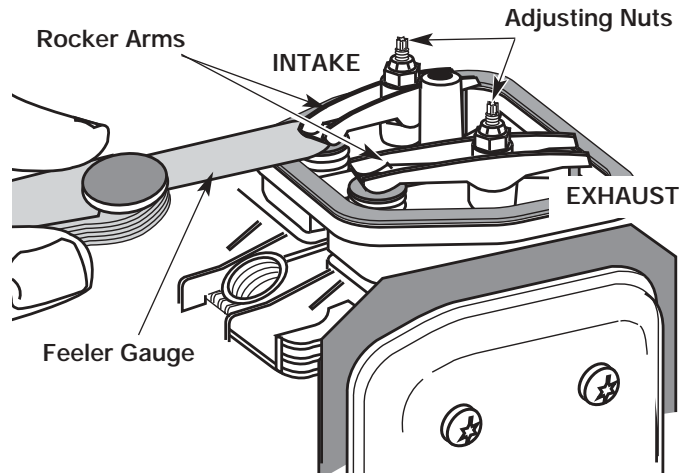

Figure 54
- Slide the feeler gauge between the rocker arm and the valve return spring. Measure the clearance between the valve stem and rocker arm. See Figure 54. Measure both the intake and exhaust valves.
The recommended clearance for both intake and exhaust is .003 - .006 in. (.076 - 0.152 mm). Use a standard automotive .005 in. (0.127 mm) feeler gauge. The feeler gauge should slide between the rocker arm and valve stem with a slight amount of resistance, without binding. See Figure 54.